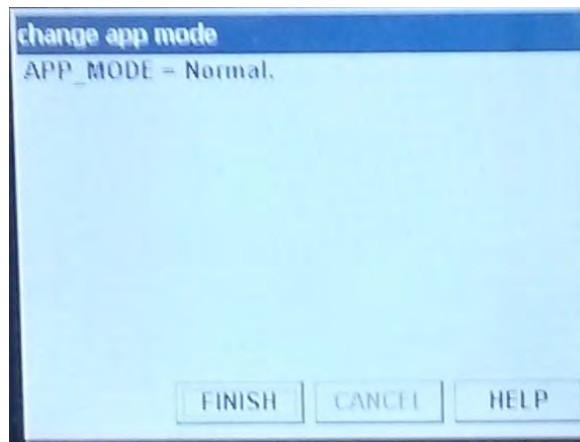

Figure 104 App Mode Changed
7. Click **Normal**, click **Next** and Figure 104 appears.